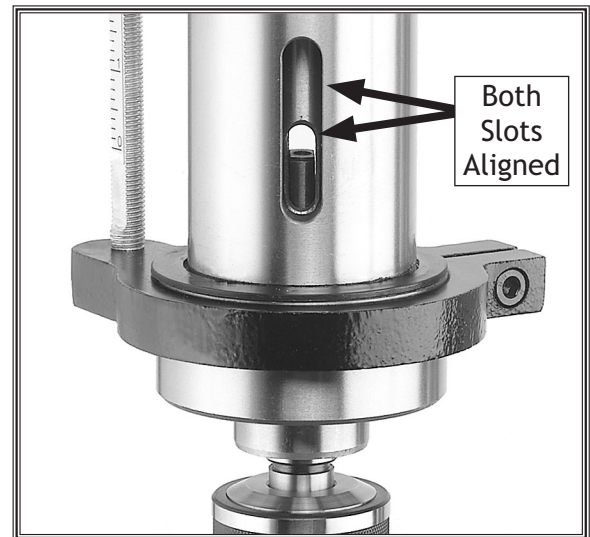

Figure 24. Inner and outer drift-key slots aligned.
4. Rotate the spindle until the inner drift-key slot is aligned with the outer slot, as shown in **Figure 24**. You will see through the spindle when the slot is properly aligned.